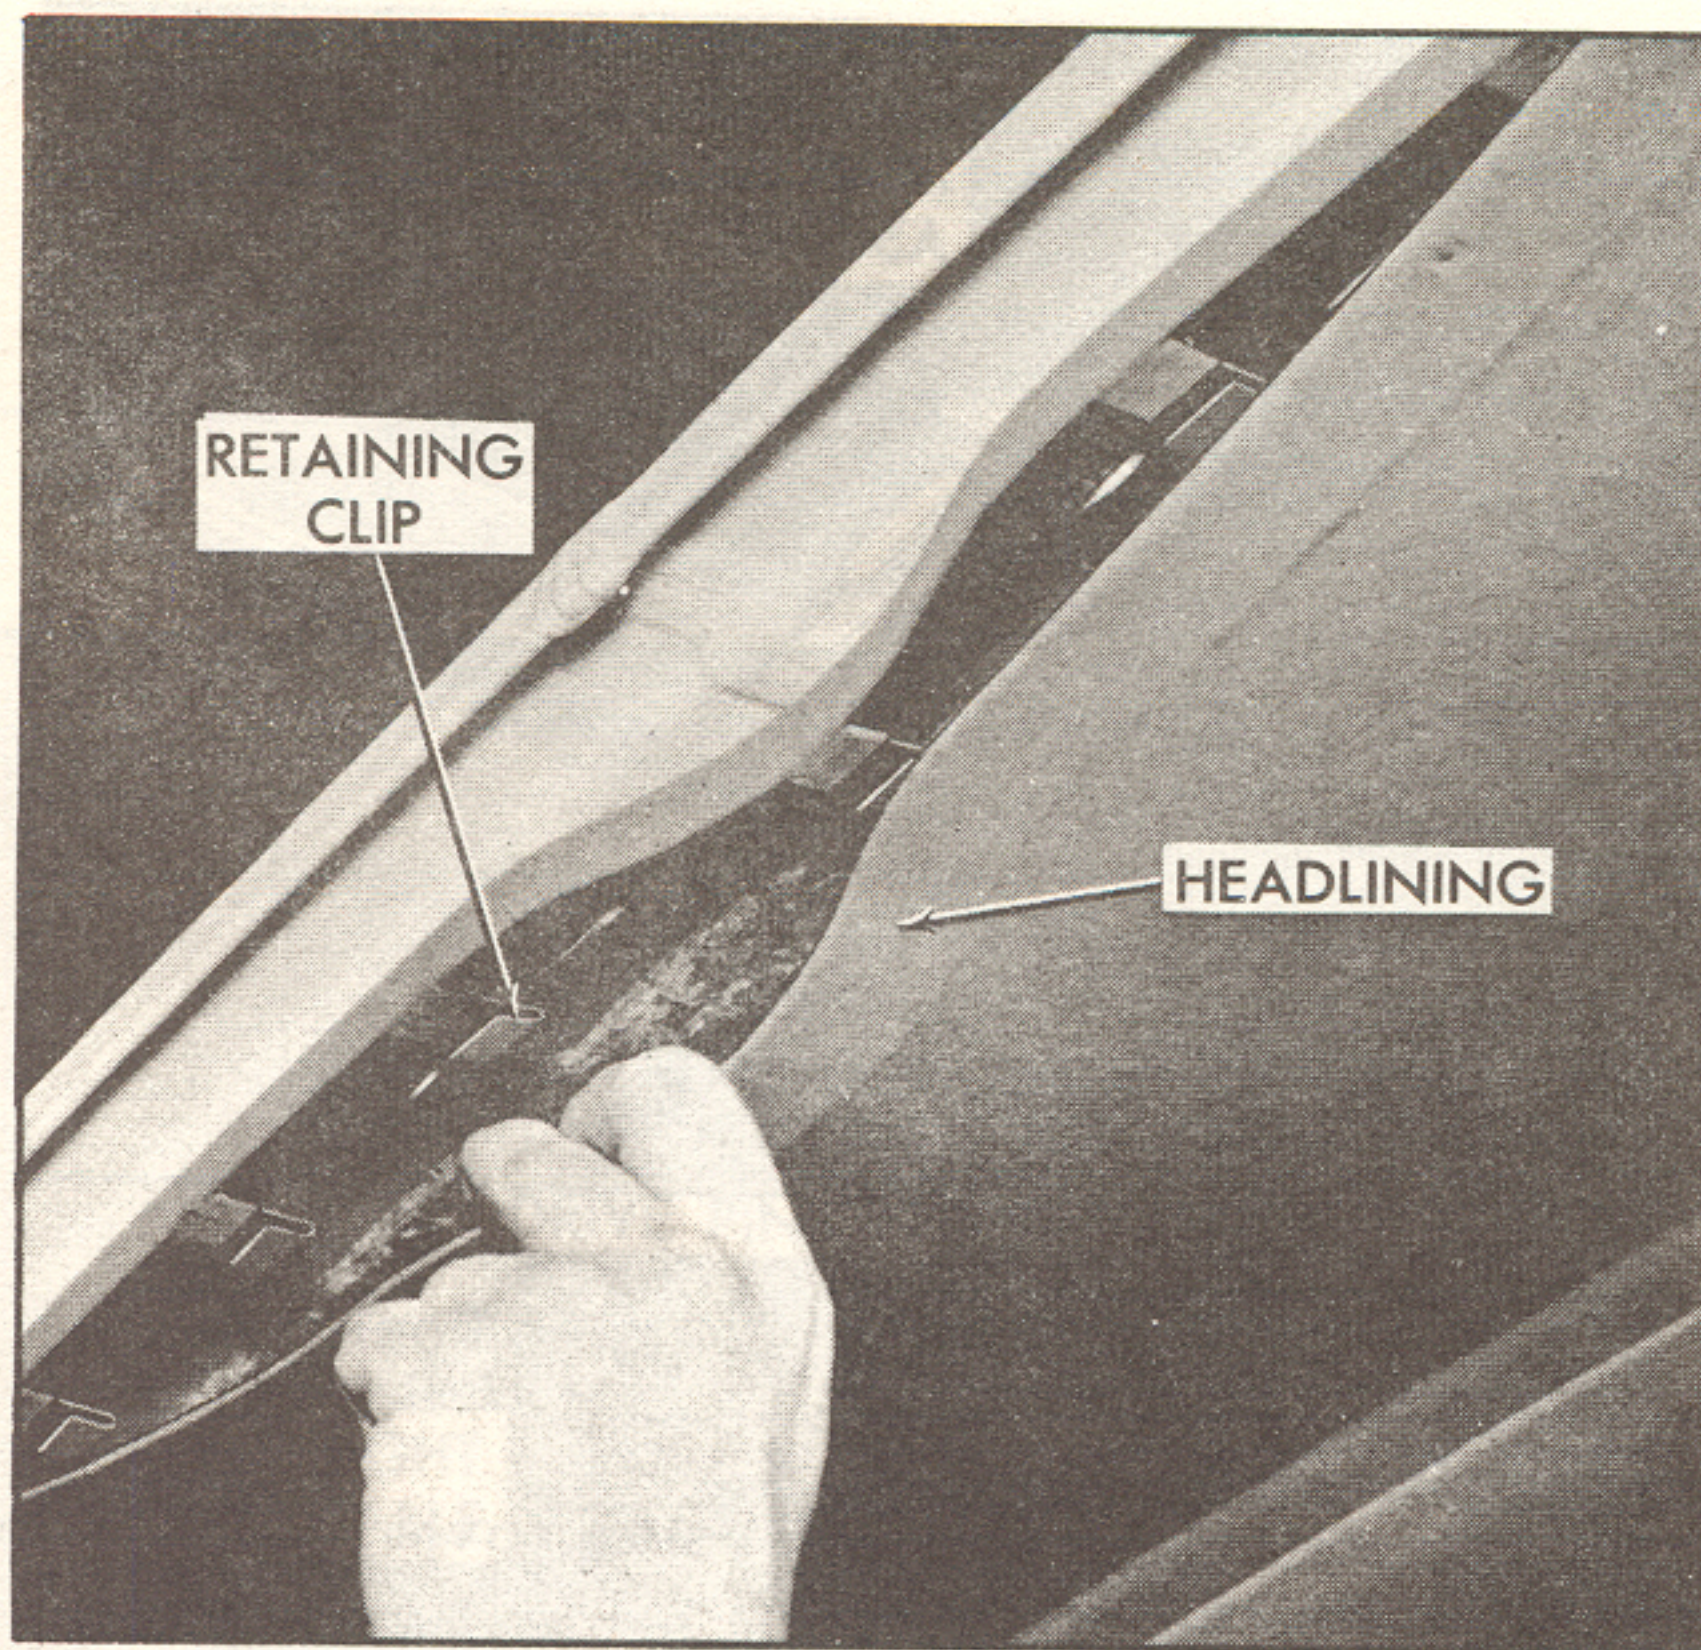

Fig. 16. Headlining Panel Removal
3. Slide headlining panel forward and out of seven retaining clips on roof panel frontedge, Fig. 16. Close roof and push headlining panel to full rearward position.